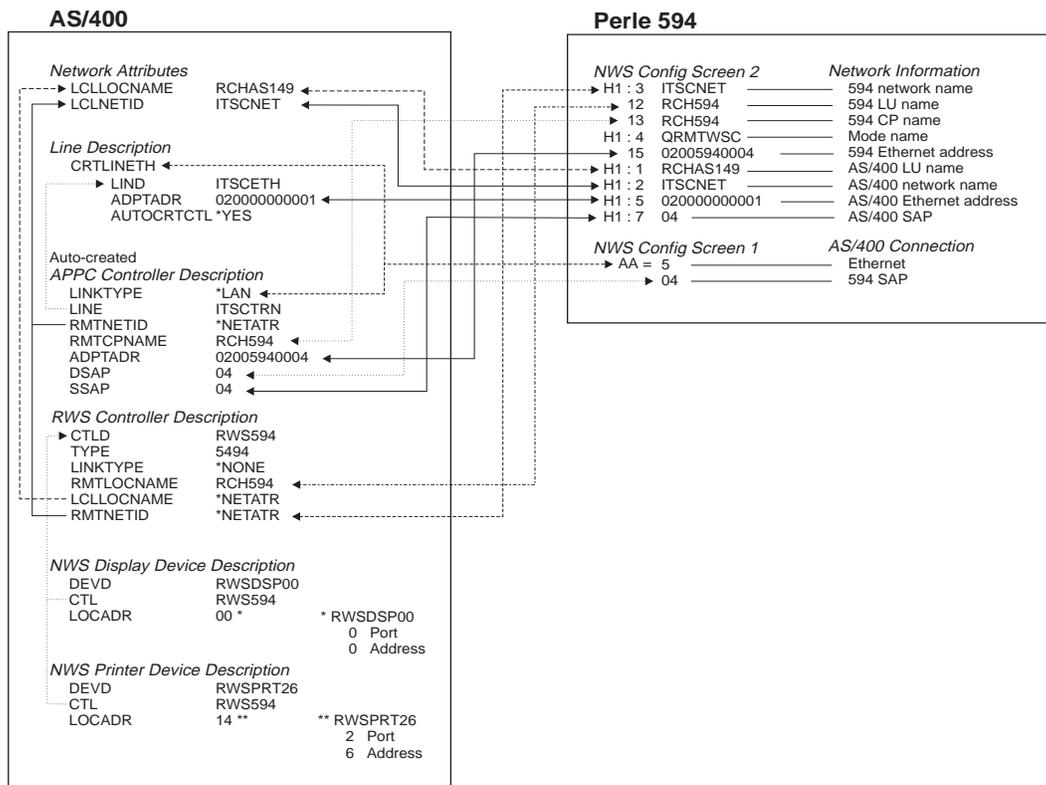

Fig. 12: AS/400 Ethernet configuration cross-reference
- Fig. 12: AS/400 Ethernet configuration cross-reference 7